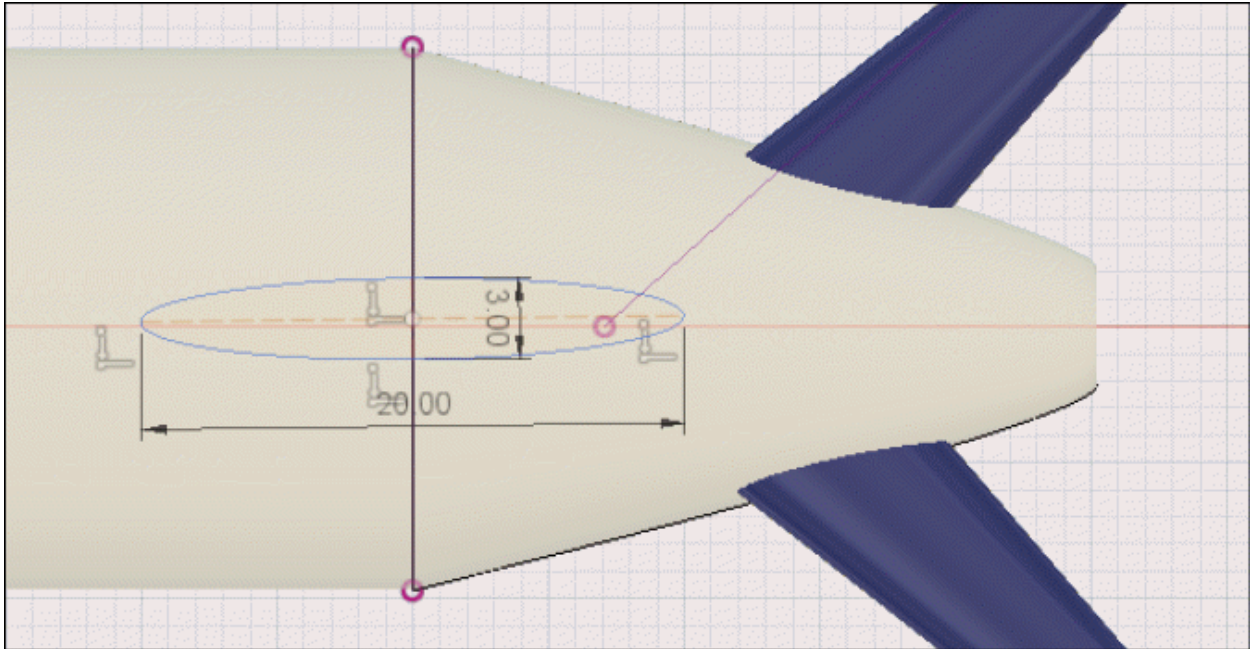

Figure-57. Creating sketch for third wing
- Click on **Create Sketch** tool of **CREATE** drop-down and select the **XY** plane for creation of sketch. Create the ellipse as shown in Figure-57.